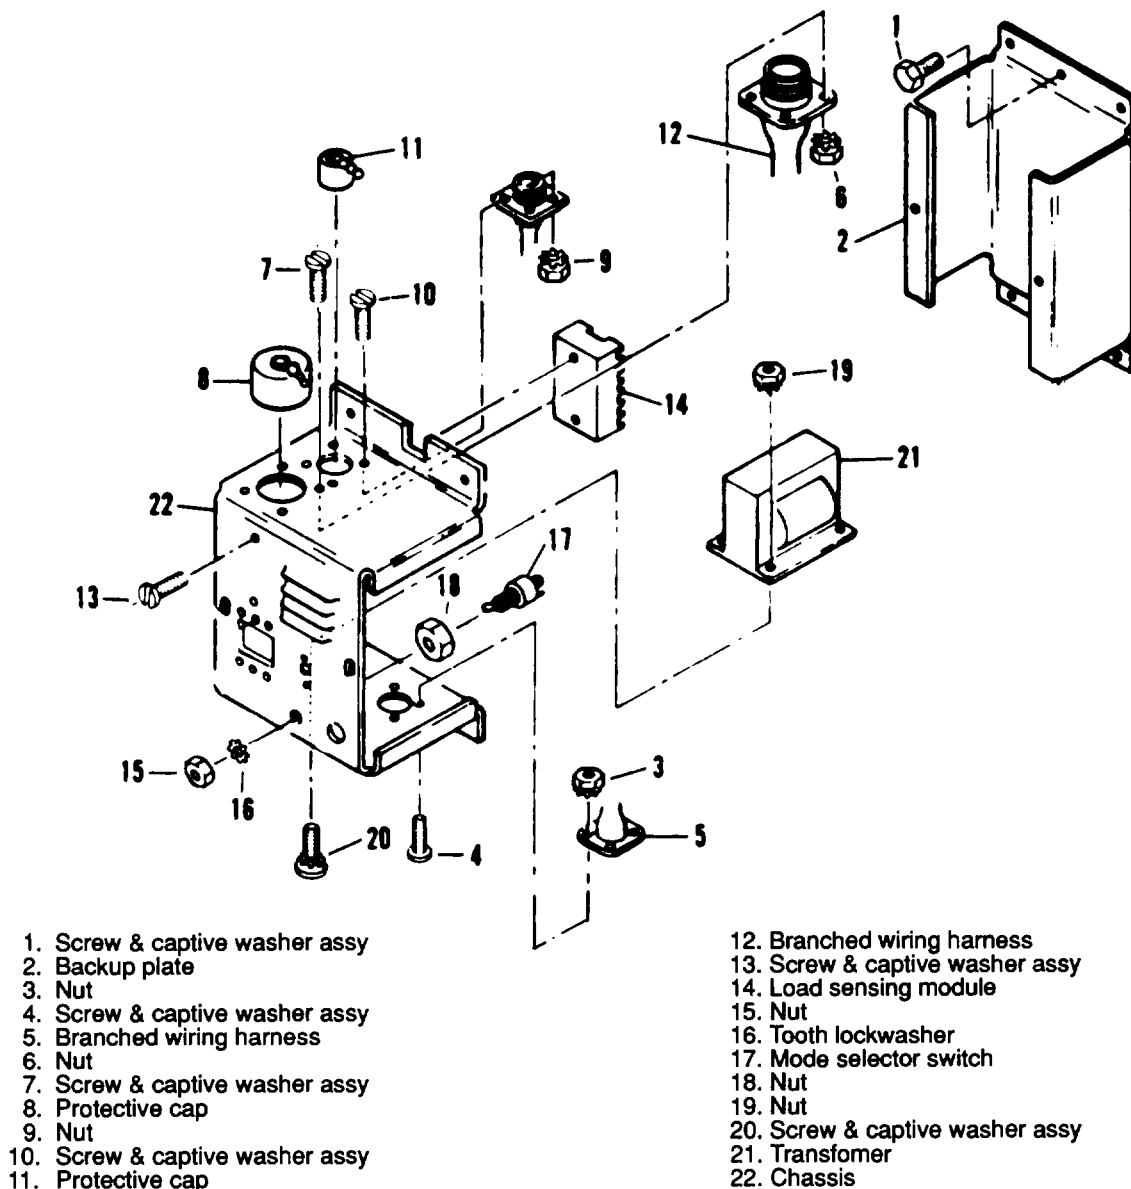

Figure 5-14. Load Bank Control Box Assembly, Exploded View
- (1) Remove load selector switch, circuit breaker, and indicator light as instructed in the Operator and Unit Maintenance Manual.
- (2) Remove screw and captive washer assembly (1, figure 5-14), and backup plate (2).
- (3) Remove nut (3), screw & captive washer assembly (4), and branched wiring harness (5).
- (4) Remove nut (6), screw & captive washer assembly (7), and branched wiring harness (12).
- (5) Remove protective cap (8).
- (6) Remove nut (9), and screw & captive washer assembly (10).
- (7) Remove protective cap (11).
- (8) Remove screw & captive washer (13), and load sensing module (14).
- (9) Remove nut (15), tooth lockwasher (16), mode selector switch (17), and nut (18).
- (10) Remove nut (19), screw & captive washer (20), transformer (21), and chassis (22).
- (1) Install chassis (22, figure 5-14), transformer (21), screw & captive washer (20), and nut (19).
- (2) Install nut (18), mode selector switch (17), tooth lockwasher (16) and nut (15).
- (3) Install load sensing module (14), and screw & captive washer (13).
- (4) Install protective cap (11).
- (5) Install screw & captive washer (10) and nut (9).
- (6) Install protective (8).
- (7) Position branched wiring harness (12) to install screw & captive washer assembly (7) and nut (6).
- (8) Install branched wiring harness (5), screw & captive washer assembly (4), and nut (3).
- (9) Install backup plate (2), screw and captive washer (1).